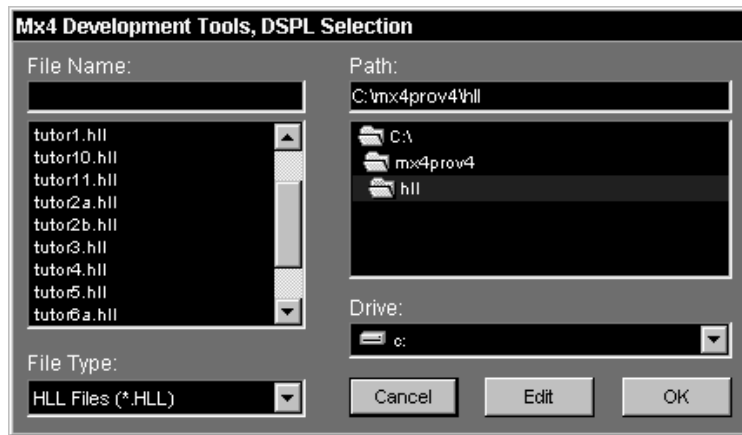

Fig. 6-2: DSPL Selection window
2. **Select the DSPL File.** To open a file, browse your hard drive to the path where your project will exist or does exist, then click on the filename or enter the file name in the **File Name** text box. Note, there is a **File Type** filter. After your file has been selected, click on the **OK** button to accept your selection or the **Cancel** button to disregard (Figure 6-2).
A file that has not been opened may also be edited via the DSPL Selection window. Follow steps 1 and 2 above, then select the **Edit** button instead of the **OK** button (Figure 6-2). The file will then be opened with the editor, but not into the DSPL Development tool. This feature is useful when an “include” file needs to be edited or created.